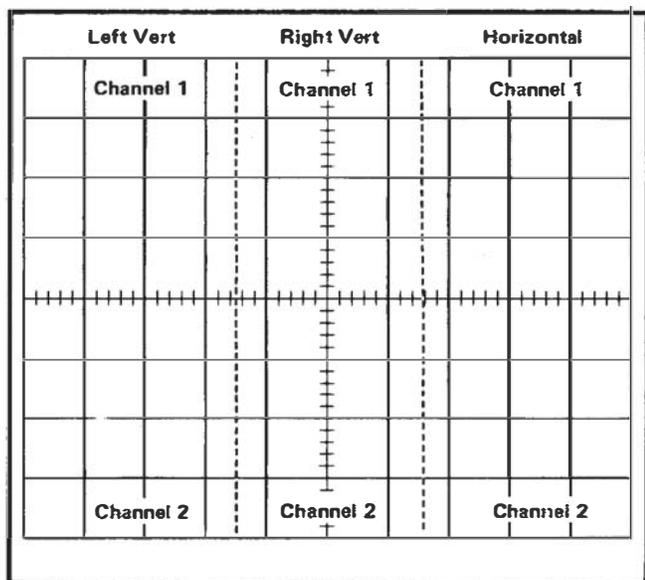
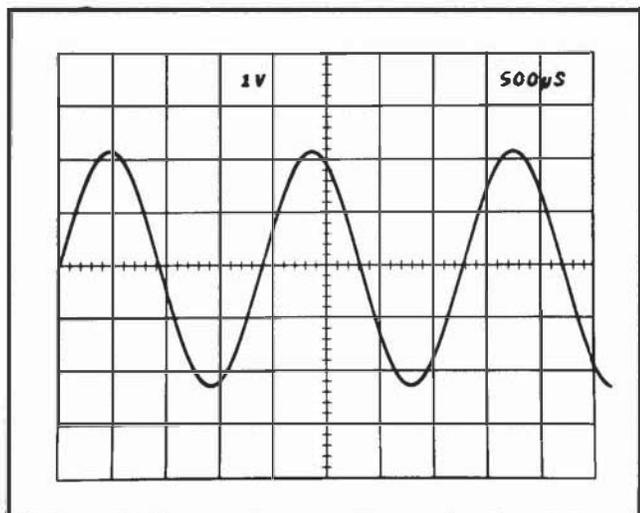

Fig. 4-24. Location of readout words on the CRT identifying the originating plug-in unit and channel (one complete frame shown, simulated readout).
Fig. 4-26. Typical readout display where only channel 1 of the Right Vertical and Horizontal units is displayed.
Frame—A frame is a display of all words for a given operating mode and plug-in combination. Up to six words can be displayed in one frame. Fig. 4-24 shows one complete frame (simulated readout) and the position at which each of the six words is displayed.
each word is fixed and is directly related to the plug-in unit from which it originated. Fig. 4-24 shows the area of the graticule where the readout from each plug-in unit is displayed. Notice that channel 1 of each plug-in unit is displayed within the top division of the CRT and channel 2 is displayed directly below within the bottom division. Fig. 4-26 shows a typical display.
The Character Generator stage produces the characters which are displayed on the CRT. Any of the 50 characters shown on the Character Selection Matrix of Fig. 4-24 can be addressed by proper selection of the column and row current. Only one character is addressable in any one time-slot; a space can be added into the displayed word by the Decimal Point Logic and Character Position Counter stage when encoded by the plug-in. The latter stage counts how many characters have been generated and produces an output current to step the display one character position to the right for each character. In addition, the character position is advanced once during each of time-slots 1, 2, and 3 whether a character is generated during these time-slots or not. This action fixes the starting point of the standard-format display such that the first digit of the scaling factor always starts at the same point within each word regardless of the information encoded in time-slot 2 (normal/invert) or time-slot 3 (cal/uncal) which precedes this digit. Also, by encoding row 10 and column 0 during any time-slot, a blank space can be added to the display. Decimal points can be added to the display at any time by addressing row 7 and columns 3 through 7 (see Character Selection Matrix for location of these decimal points). The Decimal Point Logic and Character Position Counter stage is reset after each word by the Word Trigger pulse.
The Format Generator stage provides the output signals to the vertical and horizontal deflection systems of the instrument to produce the character display. The binary Channel Address No. 2 code from the Channel Counter stage is connected to this stage so that the display from each channel is positioned to the area of the CRT which is associated with the plug-in and channel originating the word (see Fig. 4-24). The positioning current or decimal point location current generated by the Decimal Point Logic and Character Position Counter stage is added to the horizontal (X) signal at the input to the Format Generator stage to provide horizontal positioning of the characters within each word. The X- and Y-output signals are connected to the Horizontal Amplifier and Vertical Amplifier through the Horizontal Output and Vertical Output stages respectively.